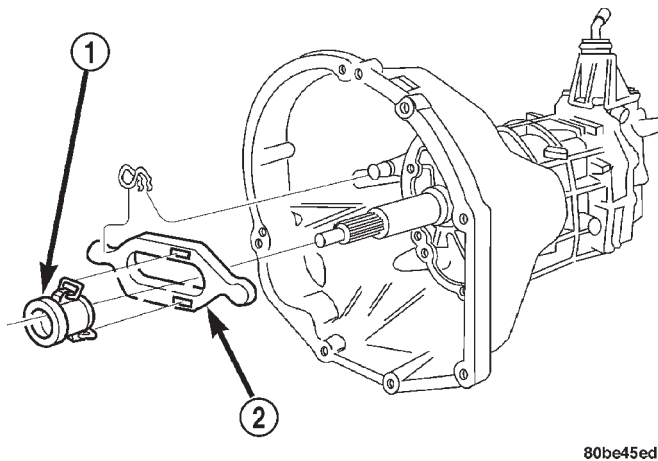

Fig. 2 CLUTCH RELEASE BEARING
- (1) Remove transmission.
- (2) Disconnect release bearing from release lever and remove the bearing (Fig. 2).
- (3) Inspect bearing slide surface of transmission front bearing retainer. Replace retainer if slide surface is scored, worn, or cracked.
- (4) Inspect release fork and fork pivot. Be sure pivot is secure and in good condition. Be sure fork is not distorted or worn. Replace release fork retainer spring if bent or damaged.